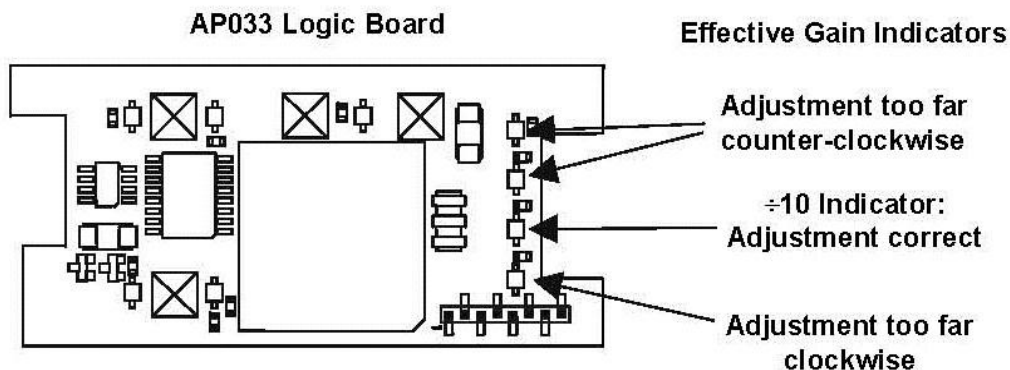

Figure 10, ± 10 Effective Gain Indicator
7. In Cal Mode, the EFFECTIVE GAIN indicators serve as an adjustment indicator. The EFFECTIVE GAIN indicators are located on the Logic Board (See Figure 10.) It may be necessary to hold the boards in your hands to see the indicators while making the adjustment.
12. Adjust $\div 2$ CMRR (R7) for minimum amplitude. (See Figure 10 for location.)
8. Adjust Attenuator Comp (C17A) for a flattop waveform. See Figure 10 for adjustment location.
5. Adjust Attenuator CMRR (capacitor C18A) for minimum amplitude shift of the displayed waveform at the trigger point in time. See Figure 10 for adjustment location.